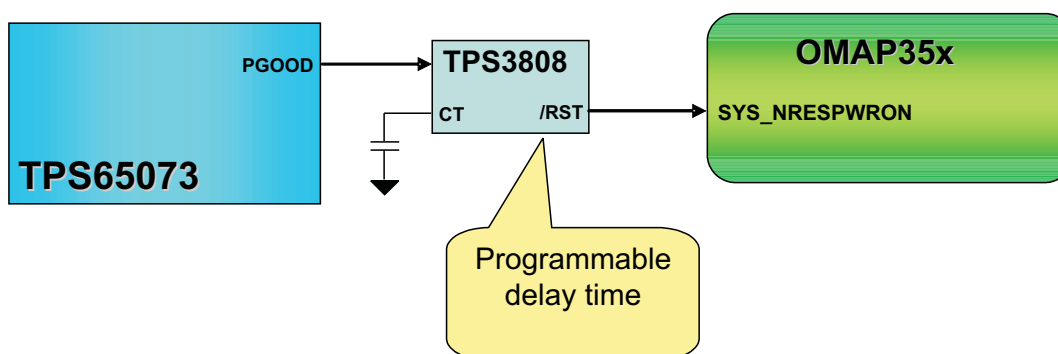

Figure 7. Using Reset Supervisor to Further Extend RESET Signal to OMAP35x
- Add an external reset supervisor to further extend the length of the RESPWRON signal into OMAP35x. An example block diagram is shown in Figure 7.